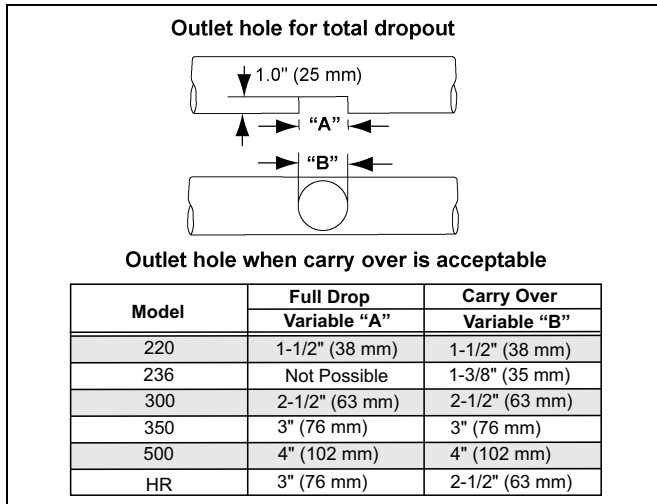

Figure 1 Outlet Hole Cutting Chart
1. Before installing the outlet drop, cut the outlet hole in the auger tube. Use a sabre saw or hack saw when TOTAL FEED DROPOUT is desired. Use a hole saw when SOME FEED CARRY OVER is desired. (Refer to the FLEX-FLO manual for information on programming outlet drops.) See Figure 1 for dimensions of appropriate size outlet hole for the system.